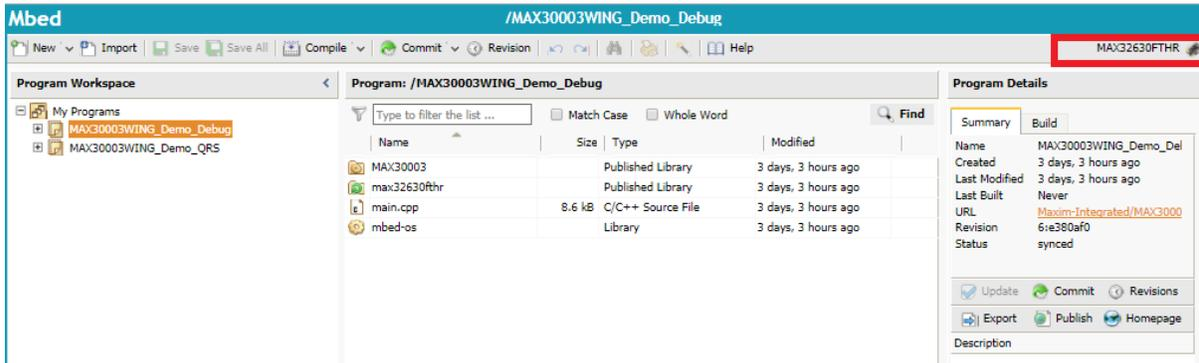

Figure 5. Highlights the target microcontroller selection area of the Mbed compiler window.
6. Select the desired example program in your program work space. In the upper right corner, the target microcontroller is displayed. Confirm the MAX32630FTHR is the target microcontroller. **Figure 5** highlights the location of the target microcontroller on the compiler webpage with a red box. If the MAX32630FTHR is not selected, click this area to select a target microcontroller. Once clicked, the selection window appears; select the MAX32630FTHR.